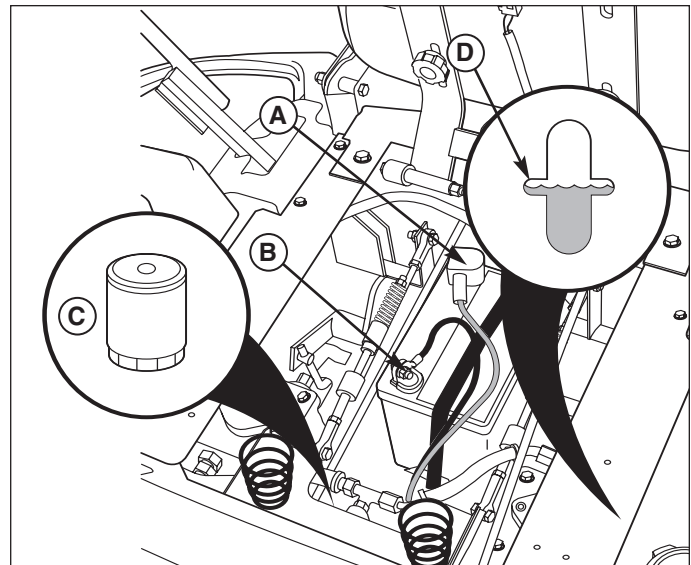

Figure 18. Battery Compartment
1. Check the oil level when the unit is cold. The inspection port is located on the inside of the right tank cover. The oil level should be within 1/2” (1.3 cm) of the horizontal level mark (D, Figure 18). If the oil is below this level, proceed to step 2.
3. Add oil up to the full mark (D, Figure 18).
1. Locate the transmission oil filter (C, Figure 18) at the rear of the battery compartment under the seat.
1. Disconnect the cables from the battery, negative cable first (B, Figure 18).
3. Reinstall the battery and reattach the battery cables, positive cable first (see A, Figure 18)